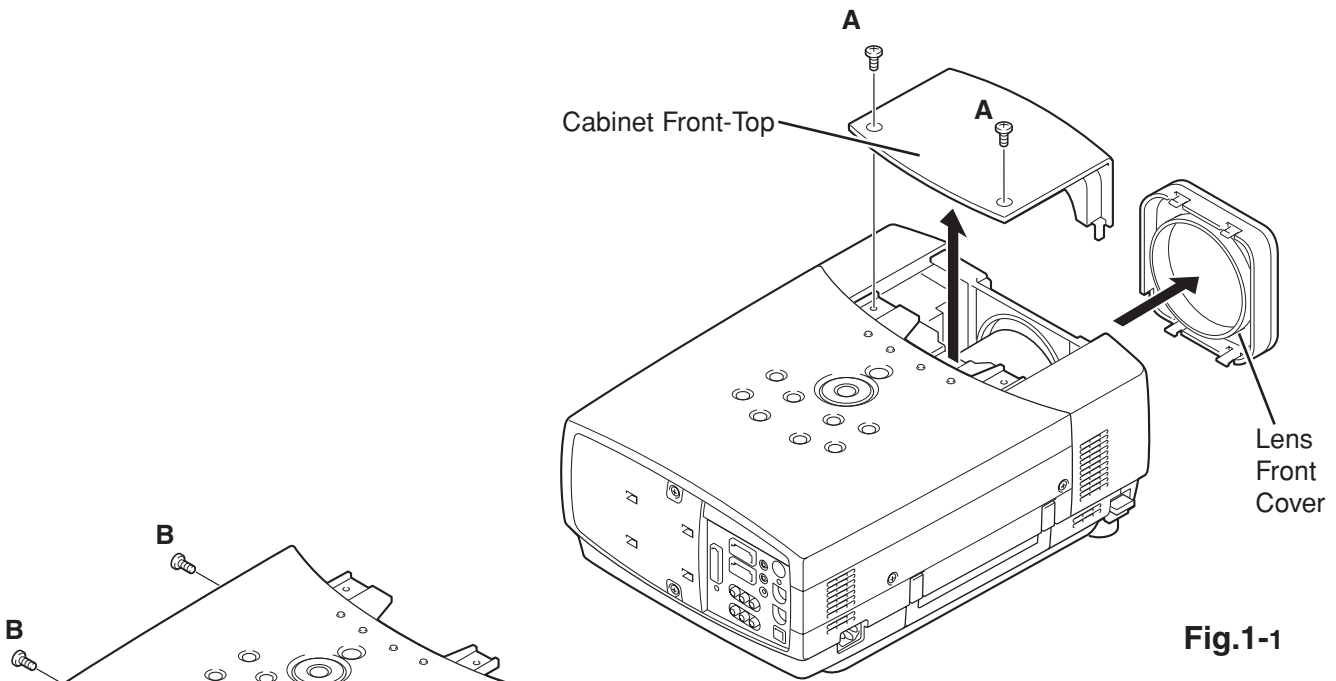

Fig.1-1
- 1 Remove 2 screws **A** (M4x10) to take the Cabinet Front-Top off and then remove the Lens Front Cover as shown in **Fig.1-1**.